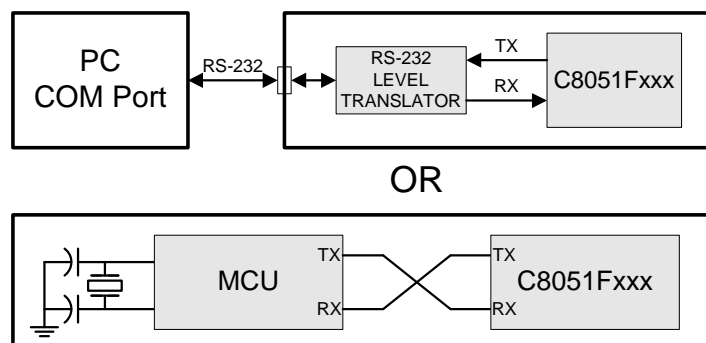

Figure 20.5. Typical UART Interconnect Diagram
In typical UART communications, The transmit (TX) output of one device is connected to the receive (RX) input of the other device, either directly or through a bus transceiver, as shown in Figure 20.5.